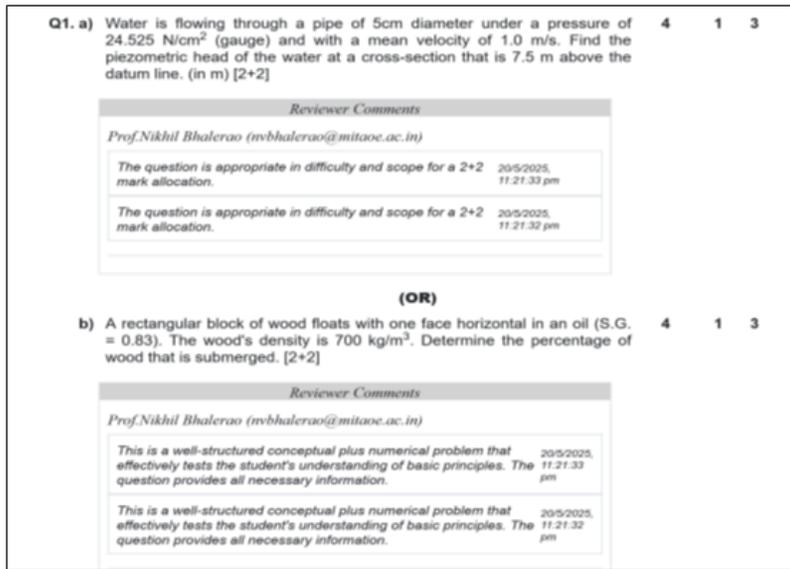

Fig 3.2a: Sample copies of ESE question paper
- The Course Teacher prepares the ESE question paper in the prescribed format, ensuring adequate coverage of all course content and adherence to Bloom's Taxonomy levels. (Fig. 3.2a shows the sample evidence of ESE paper)